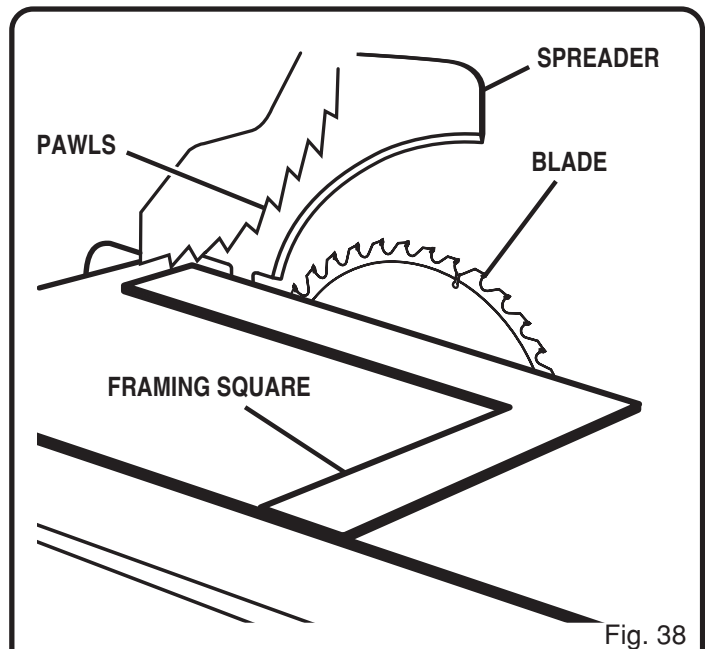

Fig. 38
See Figures 38 - 39.
- Place a framing square or straight edge beside the blade on the left. See Figure 38.